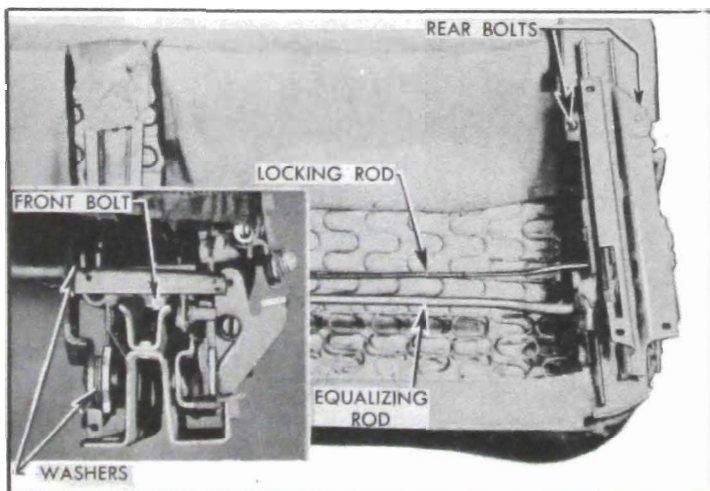

Figure 13-3—Seat Adjuster Attaching Parts
6. Remove the two rearward bolts attaching the affected seat adjuster to the seat bottom frame, then remove the single attaching bolt at front end of adjuster. See figure 13-3.
(d) Washers and cotter pins must be properly installed on equalizing rod pins, and auxiliary locking rod (manual type) must be properly attached. See figure 13-3.
6. If measurements “A” and “B” are not equal, make adjustments at front attaching bolts by moving each adjuster one-half the required distance. If more inboard adjustment is required at the front measurement “B”, remove one rubber washer from pins at both ends of equalizing rod (fig. 13-3) to permit further inboard measurement.